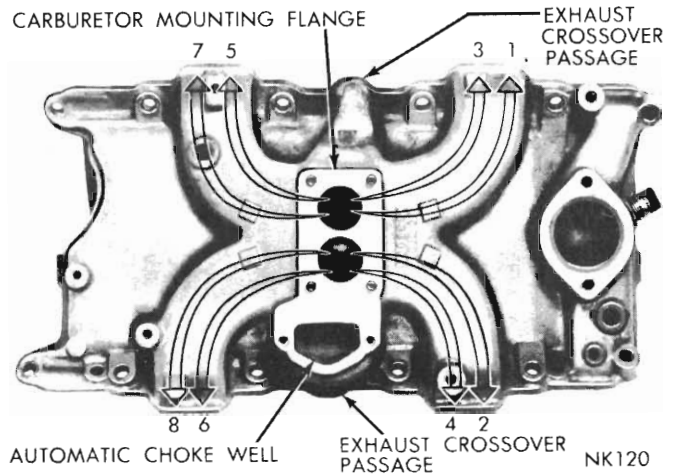
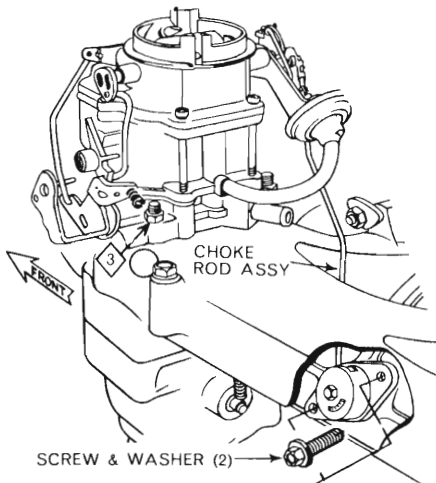

Fig. 3 - Intake manifold (8 cyl.)
Fig. 1 - Choke coil housing and rod.
A stove type automatic choke is standard equipment on all models. Its sensing element is installed in a housing on the exhaust manifold (6 cyl. Fig. 1) and on the inlet manifold (8 cyl. Fig. 3). Here it receives sufficient heat to make the choke open quickly for good warm-up fuel economy.
(1) Clean the manifold in solvent and blow dry with compressed air. Inspect the manifold for cracks.
(2) Inspect the mating surface of the manifold for parallelism with a straight-edge.
(3) Inspect the exhaust crossover passages through the manifold (*Fig. 3*). If passages are coated with hard, black carbon, they should be scraped clean and sand blasted to remove the carbon deposits.
(4) Install the intake manifold, using new gaskets. Tighten the manifold screws to 270 lbs. in. in the sequence shown.